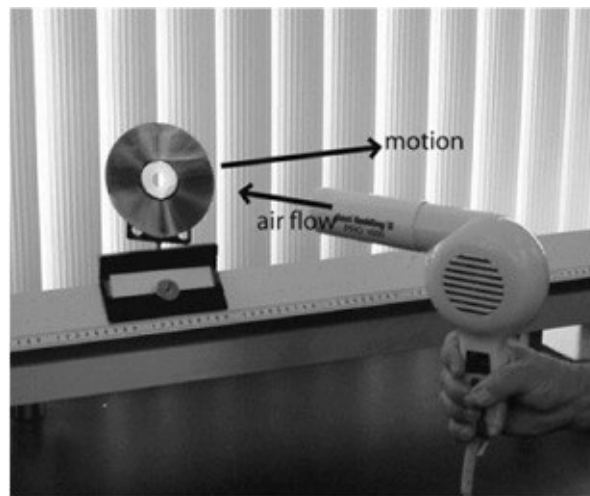

Figure 4-2 *Sailboat simulation using an air track viewed from the side. Photo by S. Grabowski.*
4. Direct the blow dryer at a slightly greater angle than the angle of the sail, and then observe its response. See Figures 4-2 and 4-3.